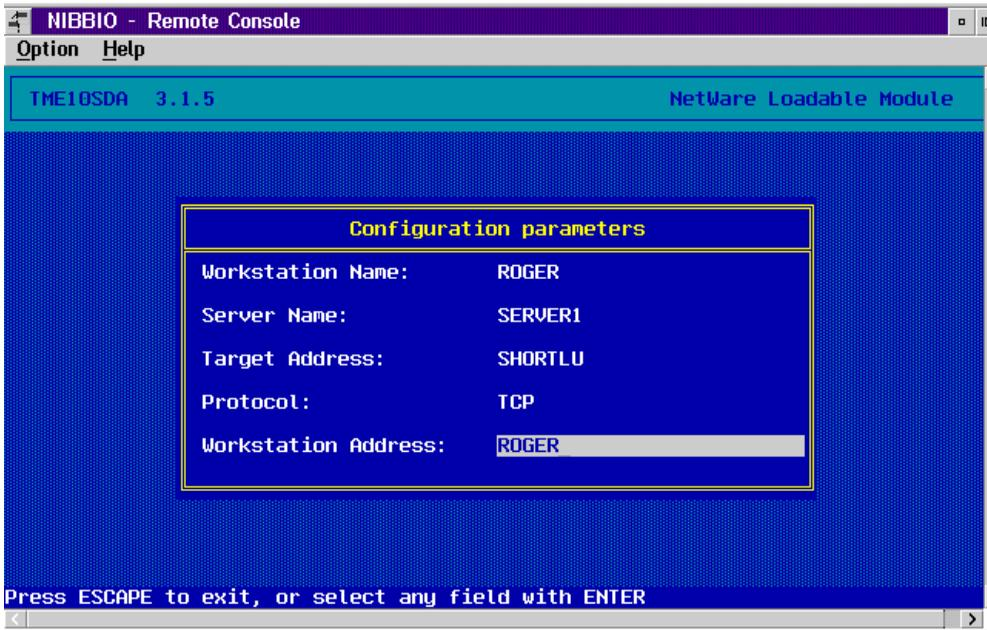

Figure 10. Configuration parameters for a TME 10 Software Distribution Client
- 9 The Configuration parameters menu is displayed, as shown in Figure 10 on page 56.